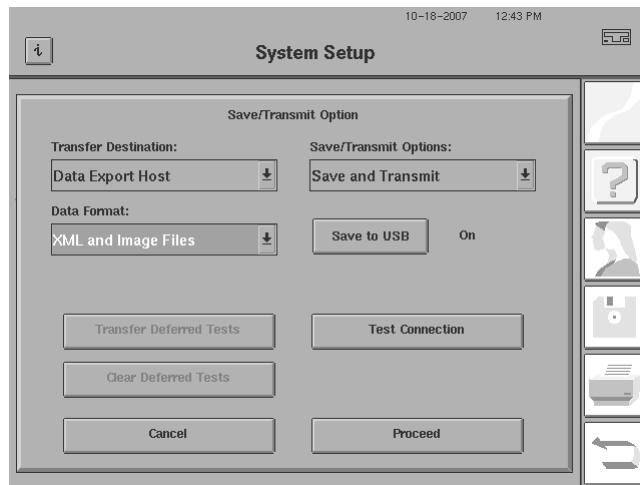

Figure I.25 Setting Up Save & Transmit
- 1 From the Main Menu, select *SYSTEM SETUP>SAVE/TRANSMIT* OPTION to display the screen that is shown in Figure I.25.